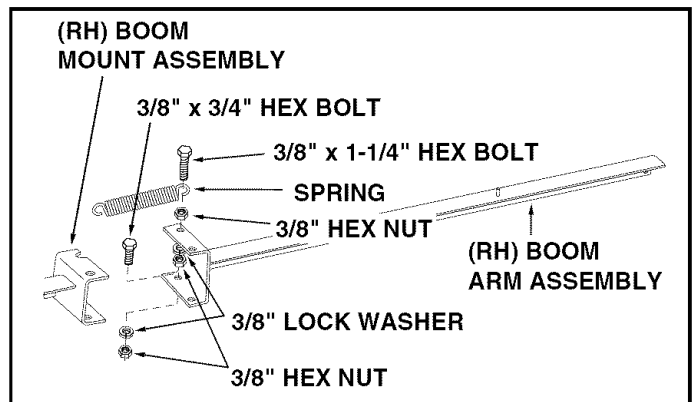

FIGURE 10 (RH) SIDE VIEWED FROM REAR
16. Assemble a 3/8" x 3/4" hex bolt, 3/8" lock washer and 3/8" hex nut to the hole shown in the bottom of the welded bracket on the (RH) boom arm assembly. **Tighten**. See figure 10.
17. Assemble a spring and a 3/8" hex nut onto a 3/8" x 1-1/4" hex bolt. Fasten the bolt to the hole shown in the top of the welded bracket using a 3/8" lock washer and 3/8" hex nut. **Tighten**, leaving the spring free to rotate. See figure 10.
18. Repeat steps 16 and 17 for the (LH) boom arm assembly.